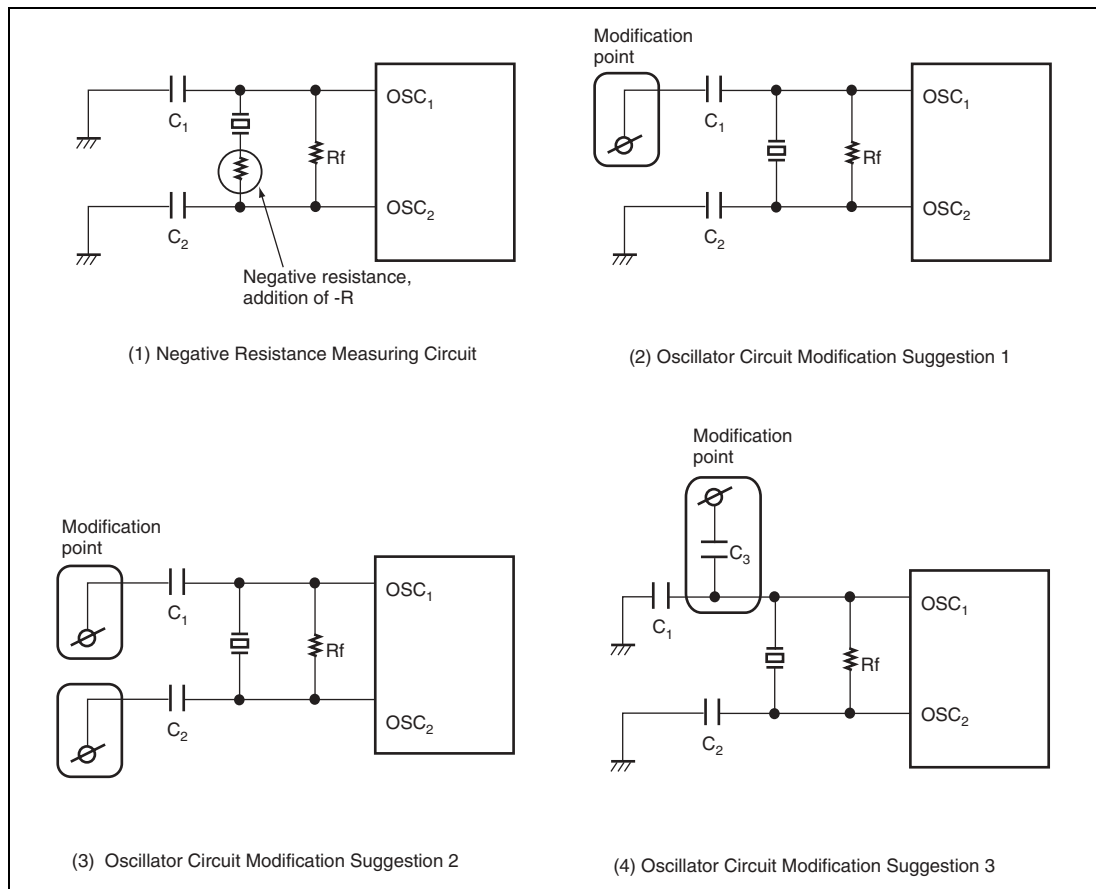

Figure 5.11 Negative Resistance Measurement and Circuit Modification Suggestions
Figure 5.11 (1) shows an example measuring circuit with the negative resistance recommended by the resonator manufacturer. Note that if the negative resistance of the circuit is less than that recommended by the resonator manufacturer, it may be difficult to start the main oscillator.
If it is determined that oscillation does not occur because the negative resistance is lower than the level recommended by the resonator manufacturer, the circuit must be modified as shown in figure 5.11 (2) through (4). Which of the modification suggestions to use and the capacitor capacitance should be decided based upon evaluation results such as the negative resistance and the frequency deviation.